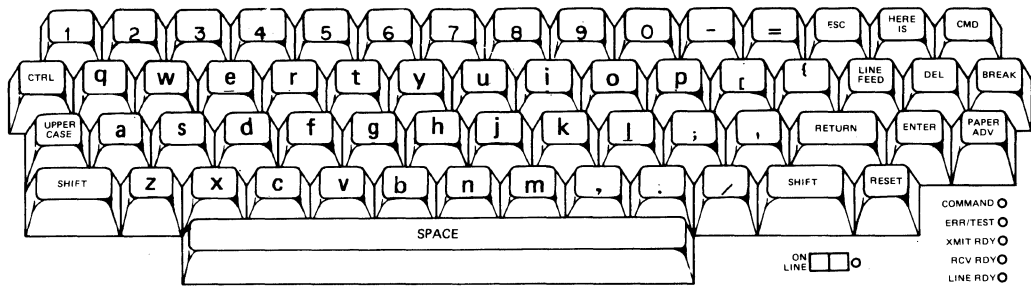

Figure 3-2. Keyboard (Unshifted)
- Unshifted—No mode control keys depressed; lowercase letters, symbols and numerals are encoded. Figure 3-2 illustrates the characters generated by each key in the unshifted mode.
The keys ESC, DEL, LINE FEED, RETURN and SPACE generate the same codes in all keyboard modes. All code-generating keys with the exception of ESC, DEL, and RETURN initiate automatic character repeat at 10 characters per second when switch depression exceeds 600 msec. Figures 3-2 through 3-5 illustrate the characters generated by the different keyboard modes. The Character Set Dot Matrix is located in Appendix C. The ASCII control characters are described further in paragraphs 3.5 and 4.1.3.